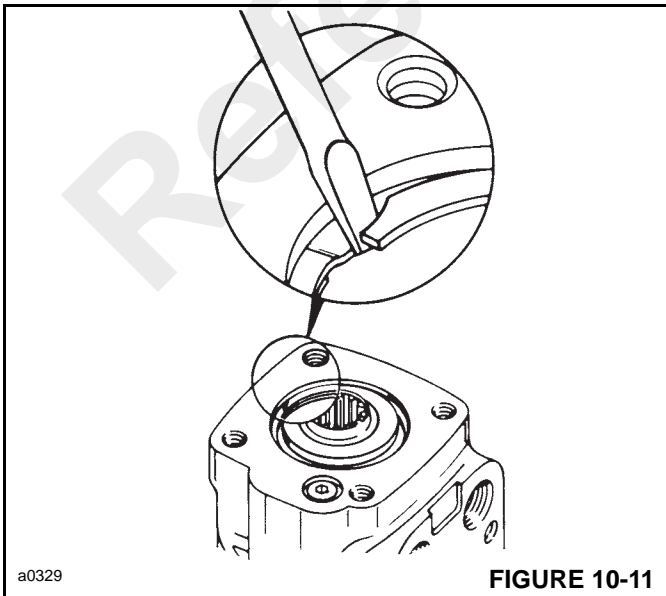

FIGURE 10-11
3. Remove the gerotor (16). Remove seal (13) from gerotor (16). Remove drive spacer(s) (17).
4. Remove drive (15). Remove spacer plate (14). Remove seal (13) from housing (8).
5. Remove housing (8) from the vise. Place it on a clean soft cloth to protect the surface finish. Use a thin bladed screwdriver (Figure 10-11) to pry retaining ring (2, Figure 10-9) from housing (8).